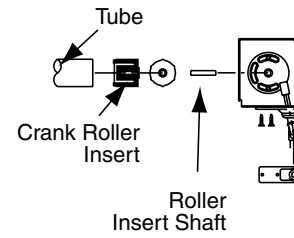

Figure 7
- ① If the shade has a detachable crank handle, remove the universal joint and shaft/bracket assembly by removing two screws from the bottom of the endcap (Fig. 7). Save universal joint & screws.